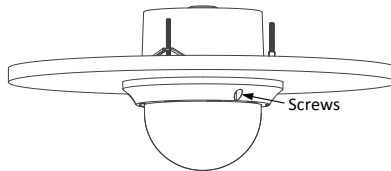

Figure 2-17 Install the Lower Dome
- Secure the lower dome to the back box with three screws as shown in Figure 2-17.